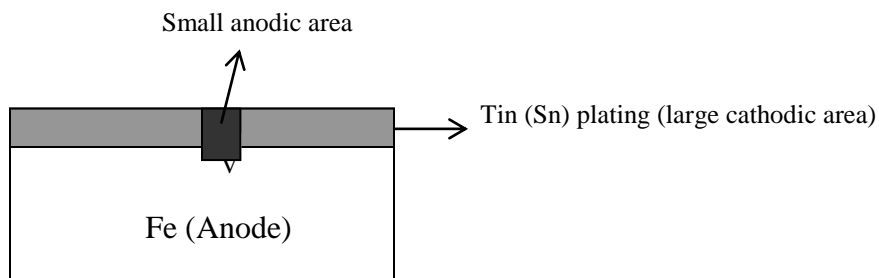

Fig. 2.5: Rapid corrosion, if anodic area is less compare to cathodic area
(1) pH of the medium: The pH of the solution also decides the type of cathodic reaction and thereby influencing the corrosion rate. In general corrosion rate is high at high acidic medium than alkaline medium. If pH is greater than 10, the rate of corrosion of metals stops due to the formation of a protective coating of metal hydroxide. Between pH 8-3 presence of oxygen is essential for corrosion. If pH is less than 3, metals under go severe corrosion even in absence of oxygen.
(2) Temperature: usually the rate of corrosion reaction accelerated with the rise in temperature. The Corrosion rate (redox reaction) also increases as the temperature increases and also the diffusion of ions also increases. Because increase in temperature increases the conductance of the corrosion medium, also contribute to the increase in corrosion rate. In some cases, temperature decreases the passivity, which again metals lead to increase in corrosion rate.
(3) Relative area of anode and cathode: The rate of corrosion is greatly influenced by the relative size of anodic and cathodic areas. Smaller the anodic area and larger the cathodic area faster is the rate of corrosion (Fig. 2.5). Because the demand for electrons by a large cathodic area can be met by smaller